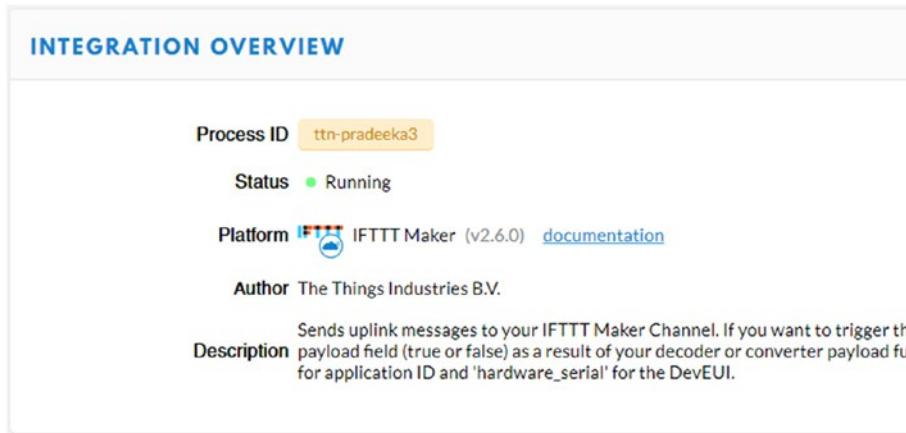

Figure 8-40. IFTTT integartion overview
23. Click the Save button to save the integration. Now, under Integration Overview, you can see the status as Running (Figure 8-40).